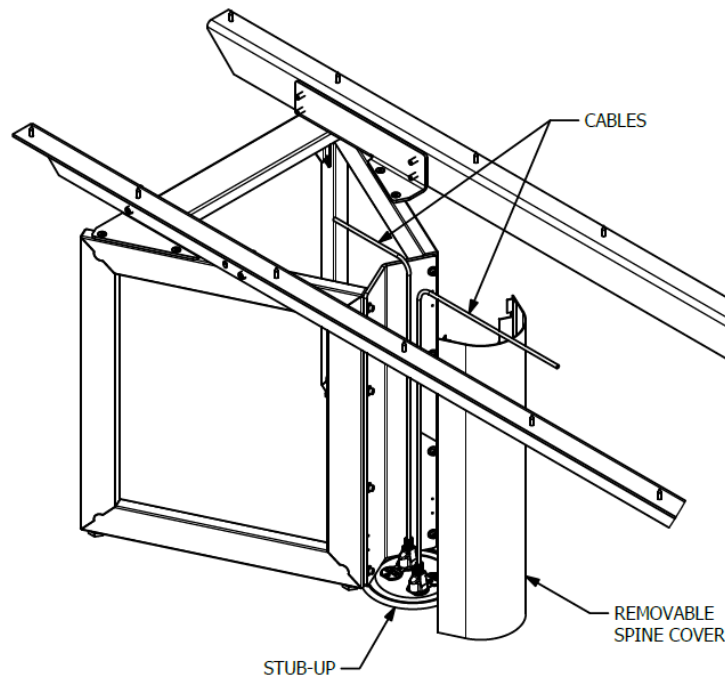

FIGURE 11: VERTICAL CABLE MANAGEMENT
1. Cable Management from the floor to the Tabletop is handled via the removable Spine Cover (B05) on the End Bases. See Figure 11.